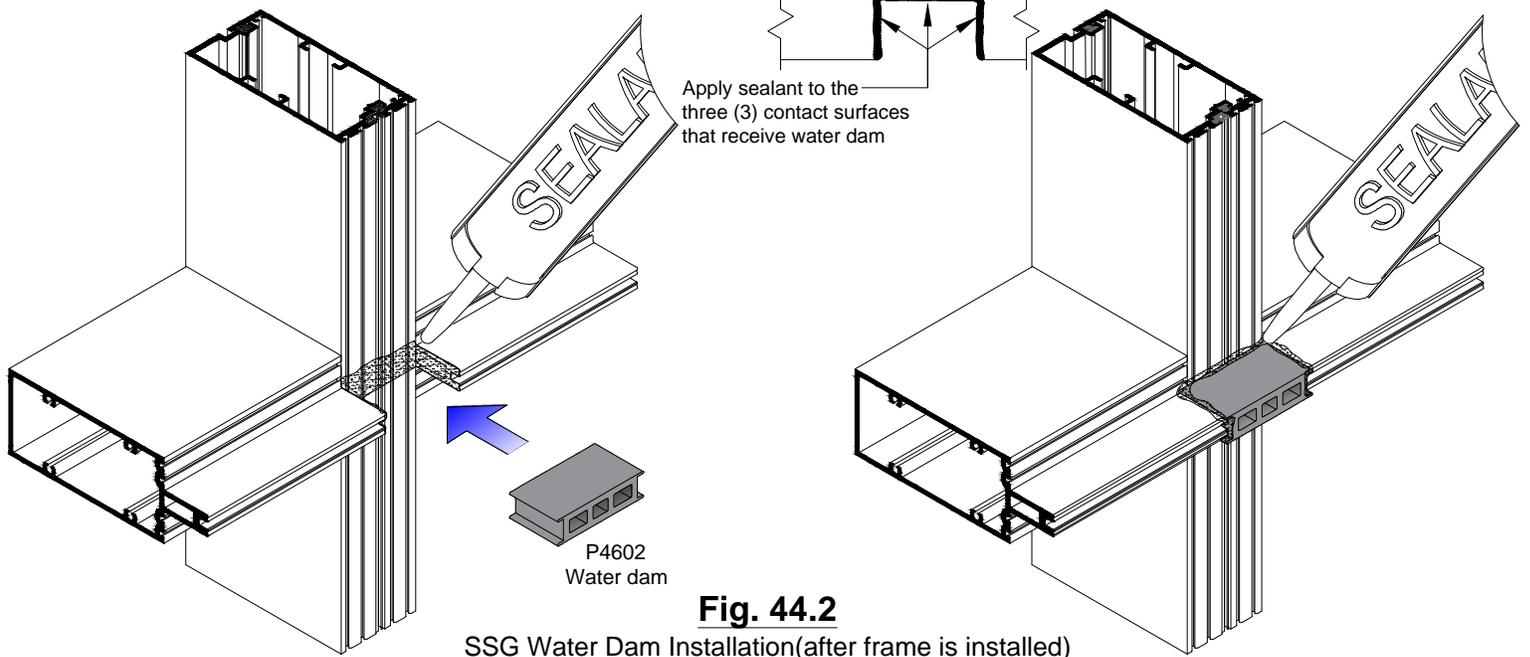

Fig. 44.2
- For vertical SSG applications, water dams must be installed after the frame units are erected. Follow the same sealing procedures as with a captured system noted above. See Fig. 44.2.